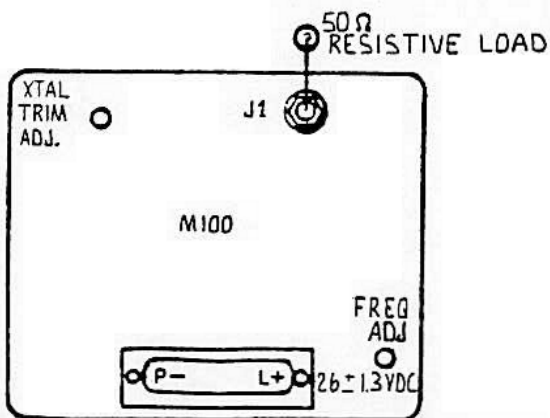

Figure 5.5. Crystal Trim Adjustment Location.
5.13.1.7 Refer to Figure 5.5 to locate the UUT crystal trim adjustment (C5).